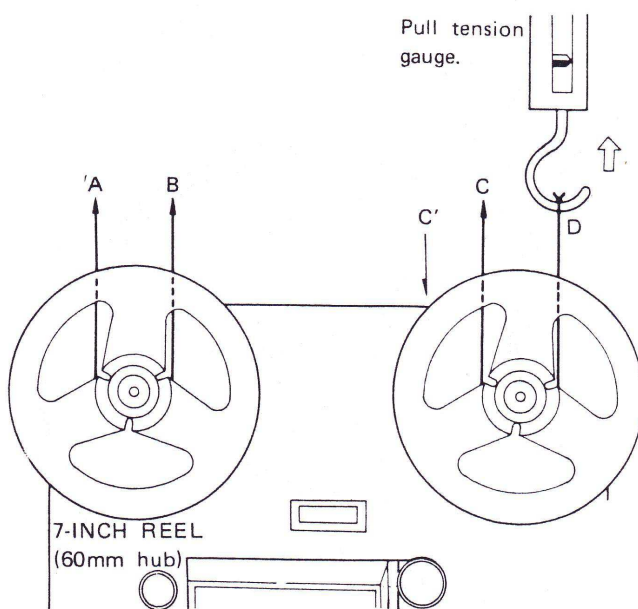

Fig. 20
● Back Tension Torque at Playback (Figs. 20,21)
2. Set tape deck in vertical position in playback mode at 7-1/2 ips (19cm/s). Measure back tension of supply reel base by pulling tension gauge in B direction as shown in Fig. 20.
● Take-up Torque at Playback (Figs. 20, 21)
2. Set tape deck in vertical position and in playback mode at 7-1/2 ips (19cm/s). Measure take-up torque of take-up reel base (While moving tension gauge slowly in C' direction as shown in Fig.20, read value of the gauge.)
● Back Tension Torque at Fast Forward (Figs. 20,21)
2. Set tape deck in vertical position in fast forward mode. Measure back tension of supply reel base (pull in B direction as shown in Fig. 20).